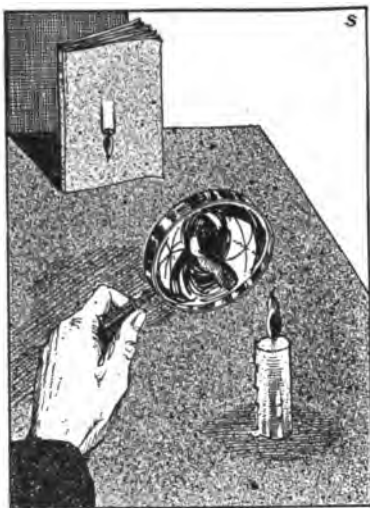

FIG. 176. The image formed by the lens is upside down.
**Exercise 12.** Throw an image of a burning candle on a white wall or on a piece of white cardboard in the manner shown in Figure 176. Is the image upside down? Notice that the lens will form a clear image when it is held in only one place.